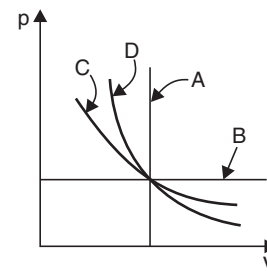

FIGURE 3.9
22. Figure 3.9 shows the various non-flow processes on p - V diagram. Curve A represents
23. Curve B in Fig. 3.9 represents
24. Curve C in Fig. 3.9 represents
25. Curve D in Fig. 3.9 represents